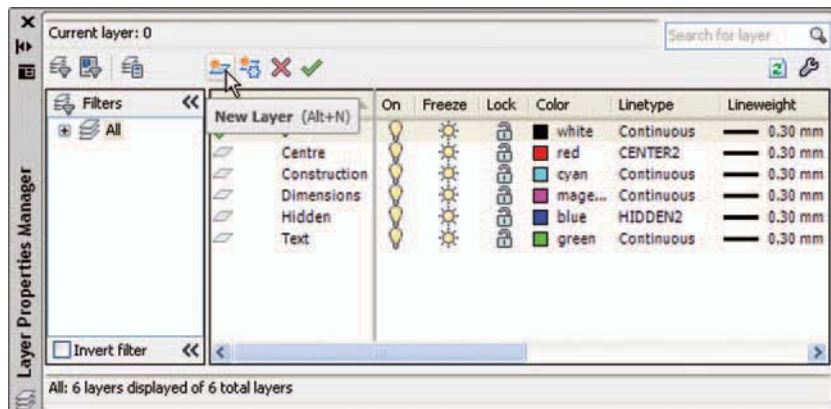

Fig. 4.16 The Layer Properties Manager palette
1. At the command line `enter layer` followed by a *right-click*. The **Layer Properties Manager** palette appears (Fig. 4.16).